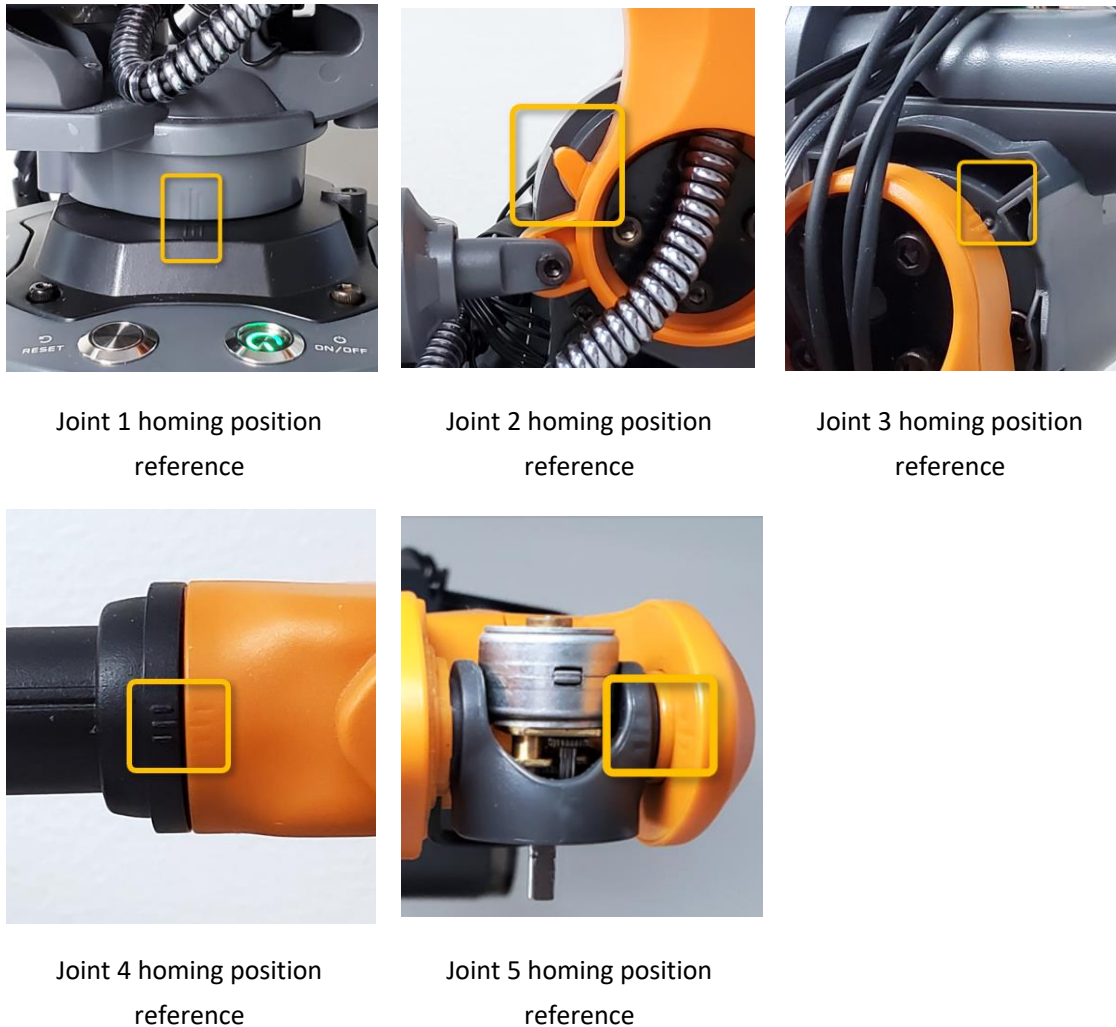
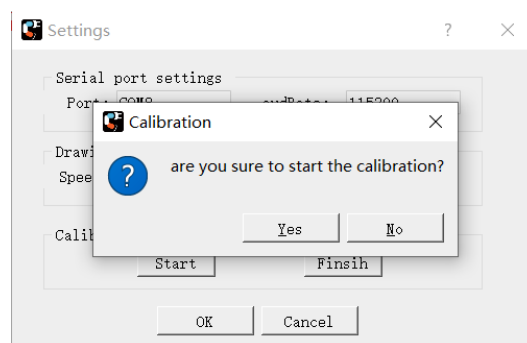

Figure A1 Pre-designed homing position of the Joint 1 to Joint 5
Figure A3 Start the Calibration procedure
The Mirobot is calibrated before leaving the factory. In each time the manipulator finishes the HOMING action, the joint 1, joint 2, joint 3, joint 4 and joint 5 should be homed to the pre-designed homing position, as shown in Figure A1.
- (4) Click the **Start** button under the Calibration section, and click **Yes** in the pop-up window to start the calibration, as shown in Figure A3.
- (5) Keep the Settings window open, switch the **COMMOND** page and switch the control mode to **ROBOT JOINT MODE**.
- (6) On the right panel, click the **J+ J-** control buttons to adjust the positions of the J1 to J5 to the pre-designed homing positions (as shown in Figure A1).
- (7) When the Joint 1 to Joint 5 are all in the pre-designed homing positions, click **Finish** button in the Setting window to finish the calibration procedure.